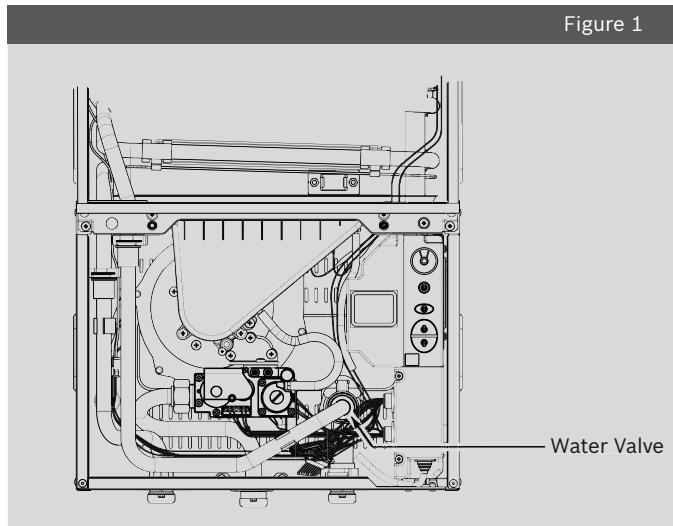

Figure 1
4. With the power off, check the two wire connections to the water valve, confirming that the connections are clean and tight. (see Figure 1).